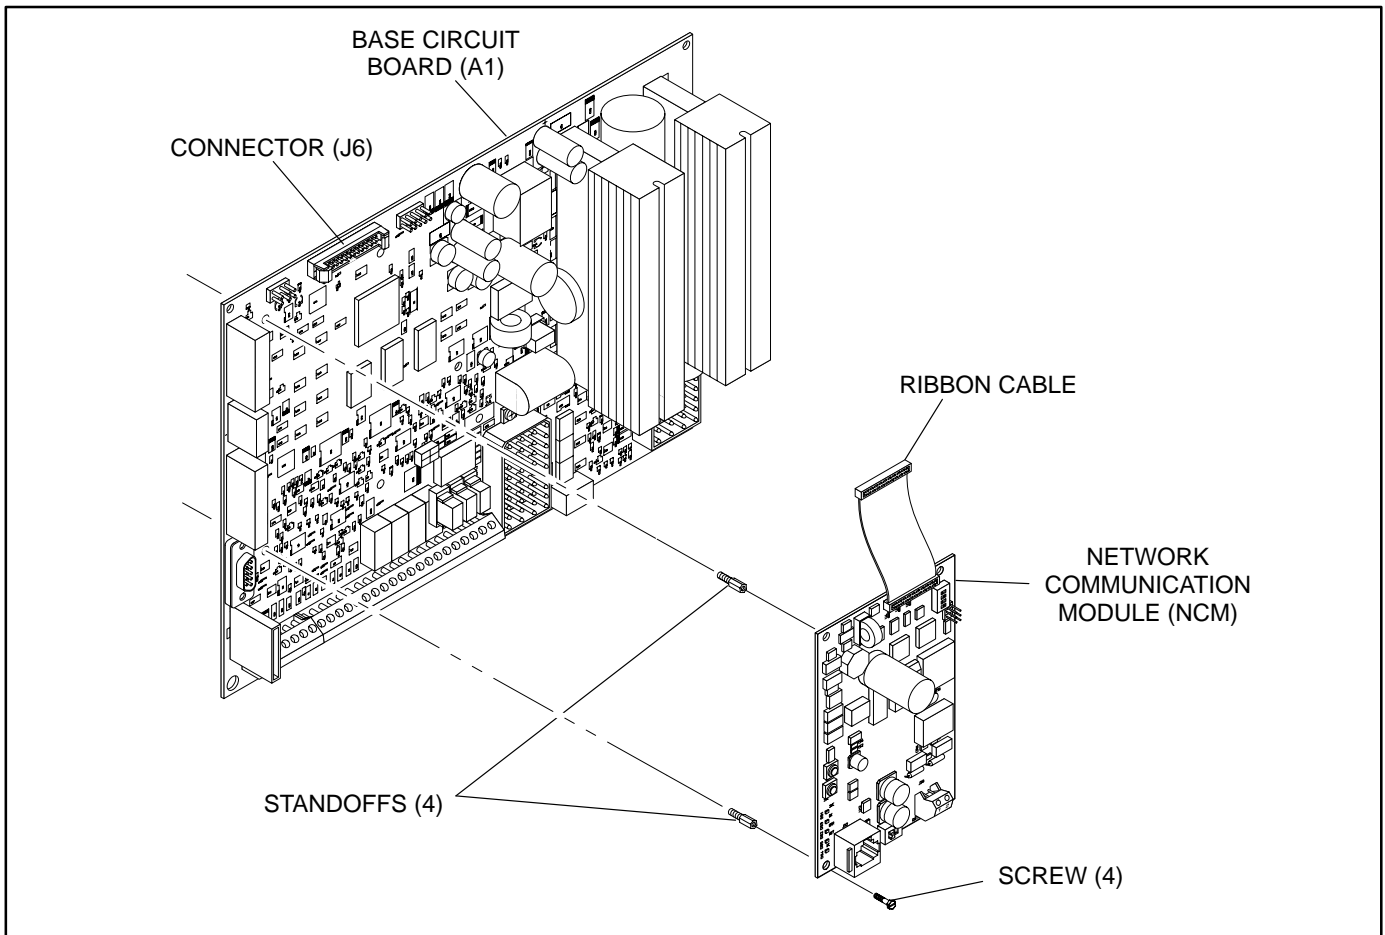

FIGURE 2. NETWORK COMMUNICATION MODULE INSTALLATION
7. Attach the four standoffs to the base circuit board (see Figure 2).